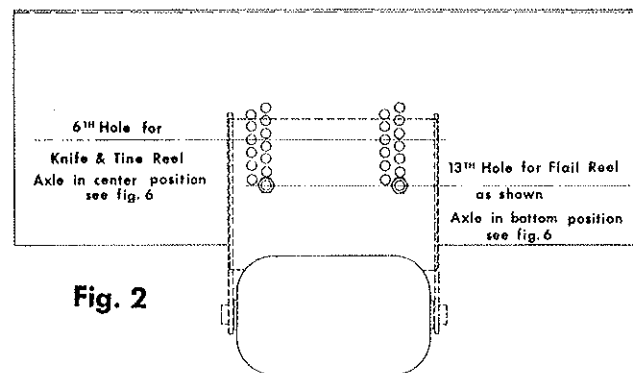

Fig. 2
1. Remove basic machine from carton and place on ground or floor in upright position. Note roller assembly has been assembled on machine upside down for ease of shipment. Remove capscrew, Fig. 2 and assemble with roller toward ground. Replace capscrew and flat washer. See paragraph 10 to determine setting of roller for each type reel.
Before starting to operate the machine, set the front roller according to the positions indicated in figure 2. Next try the machine on the turf. If the thatching condition is too light, move the roller up one hole at a time ($7/32$ ") until the desired condition is obtained. If the action is too severe, move roller in the opposite direction. (DO NOT EVER USE FLAIL WITH AXLE SET IN TOP POSITION.)
4. Reset front roller in accordance with instructions on front of machine (see Fig. 2.) To determine proper setting of reel, set roller, see Fig. 2, and try. Then lower machine by raising roller bracket one hole at a time and try again until desired thatching condition is obtained. (DO NOT USE FLAIL WITH AXLE SET IN TOP POSITION.)